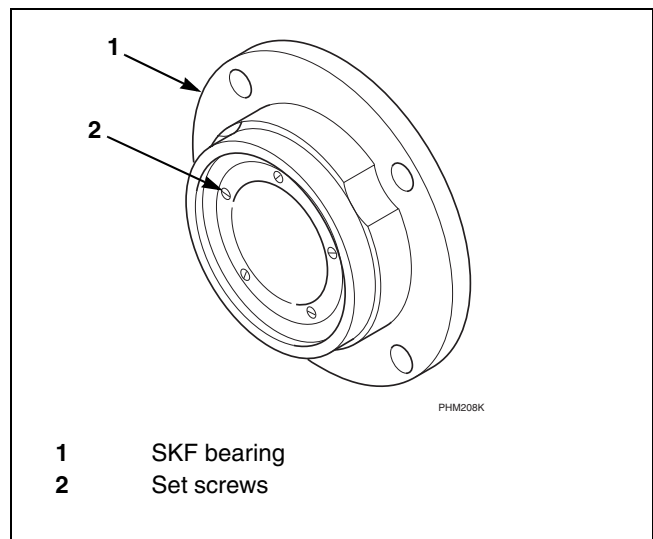

Figure 33
- j. If the machine's bearings are similar to *Figure 33* (new style SKF bearing), loosen the front and the rear bearing's set screws (until 3 threads are showing) using a short 3mm Allen wrench.